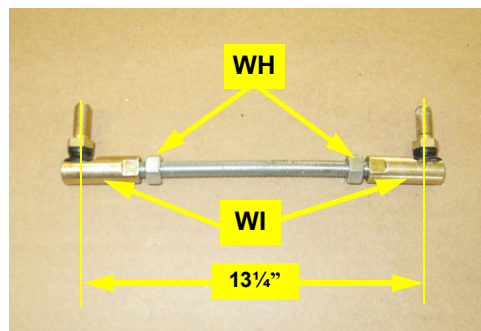

Figure 1d: Assembled threaded rod
- d. Screw two of hardware **WH** and rod swivels **WI** onto the threaded rod to achieve a center-to-center stud measurement of 13 1/4" (Figure 1d). Leave **WH** loose until you complete linkage adjustment at step 2e.